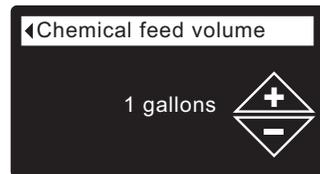

FIG. 85
7. Press the SELECT (O) button to display the Chemical feed volume or Chemical feed timer menu (See Figures 85 & 86).